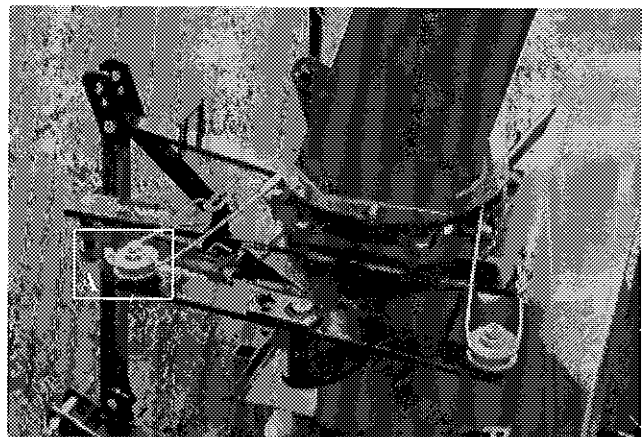

Figure 26
- 5) Pull other end of cable counterclockwise around the chute, then around pulley (A Fig 26), loop through clevis and secure with wire clamp.